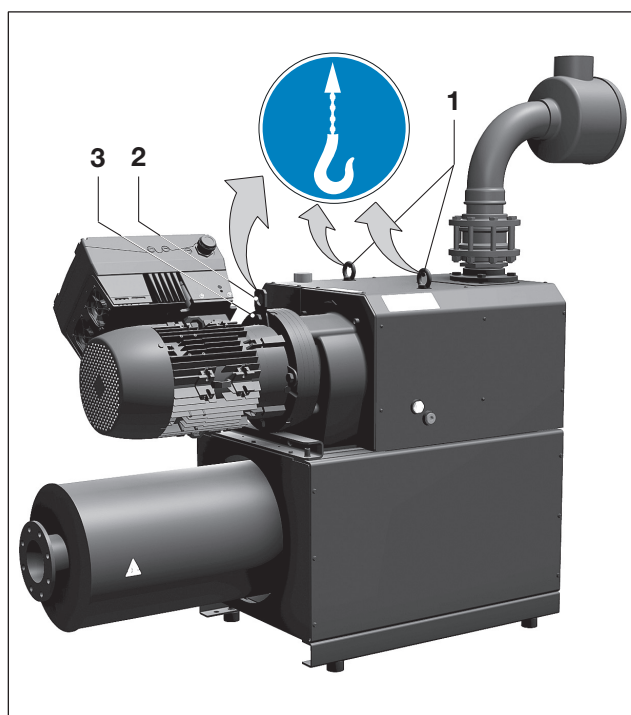

Fig. 1 Lifting and transporting
- a) Tighten the eyebolts (Fig. 1/1) and fixing screw (Fig. 1/3) on the transport shackle (Fig. 1/2) firmly.